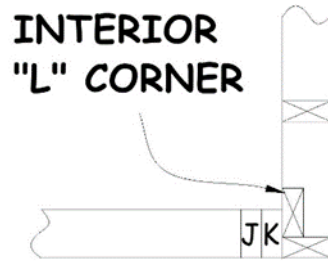

Figure 3-11. Interior L-Corner Configuration.
5. At corners and intersections, pay attention to whether a door will be built at that location. If so, make the room wall long and the door wall short, not the other way around. Include an “L-Corner” at the door end of the room wall and lay out the door plates so that the KJ pair abuts the L-Corner (see Figure 3-11). This allows for easy nailing through the “L” into the King stud. This configuration also provides a stronger corner that does not depend on nailing one stud into the edge of another stud. In addition, nailing the end of the long wall to the floor provides a stronger anchor than does toenailing the KJ pair to the floor.
2. Recheck wall intersections to determine which wall end should abut the side of the other wall (which wall will be the “long” wall and which will be the “short” wall). This may be dictated by an adjoining door. (See Section 3.6.5 and Figure 3-11 above.)
- c. Where a door will be attached at the end of a bathroom or bedroom wall, mark the end of the wall for a 2x4 L-corner oriented to allow nailing through the L-corner into the King stud of the door (see Figure 3-11). This is similar to the 2x6 L-corners used in the exterior walls.